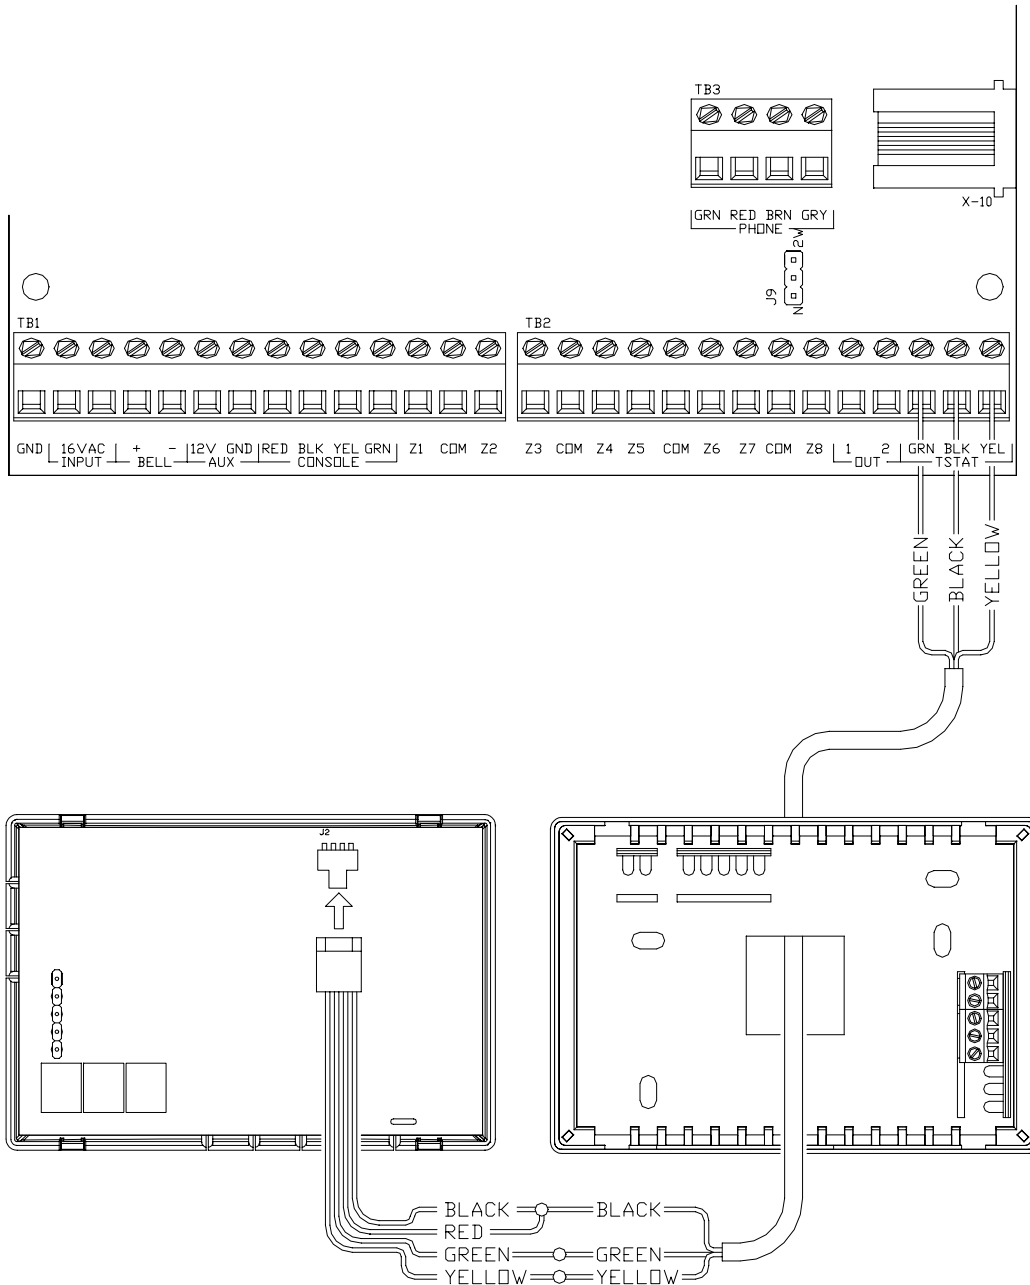

FIGURE 9 - HAI THERMOSTAT CONNECTIONS
Run a 3 (or 4) conductor wire from OmniLT to the thermostat location. All thermostats are connected to the GRN (Green), BLK (Black), and YEL (Yellow) terminals in the section marked "TSTAT" on the OmniLT controller. Connect the red COMM cable wire with the black COMM cable wire. Make the connections (as shown in Figure 9) using the supplied wire splices.
2. Run a 4-conductor wire from the OmniLT controller to each PESM. Connect as shown in FIGURE 9.